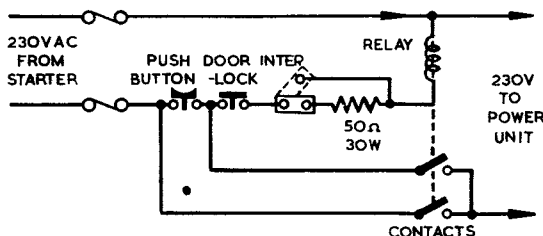

Fig. 24. Turning gears Type 52 and 53 : contactor unit circuit
70. Fig. 24 shows the action of the circuit which cannot be completed unless the cabin door is shut, making the door interlock switch. With the starter switch in the RUN position, the contactor circuit is then completed by pressing the push button on the outside of the cabin to energize the relay.